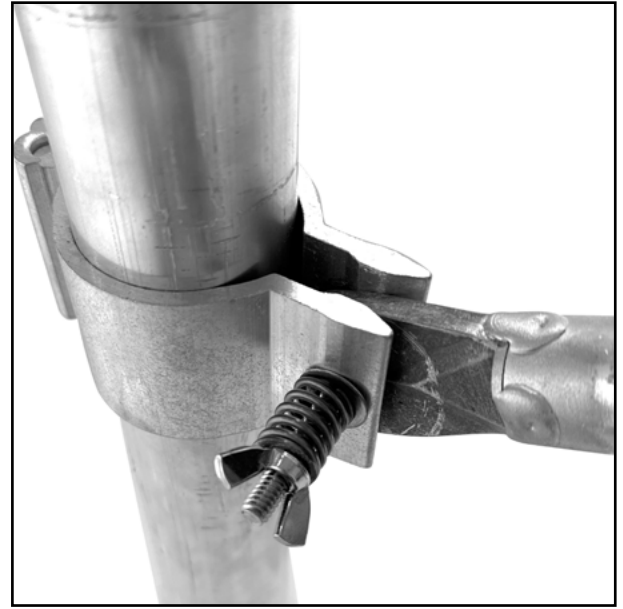

FIG 6.
1. Remove the wing nut, washer and spring from the end of the bracket. Open the bracket and close it around the leg, securing it closed with bolt, washer, spring and wing nut. Do not over-tighten the wingnuts as this will prevent the lower braces from sliding down the legs and into the water. FIG. 6.